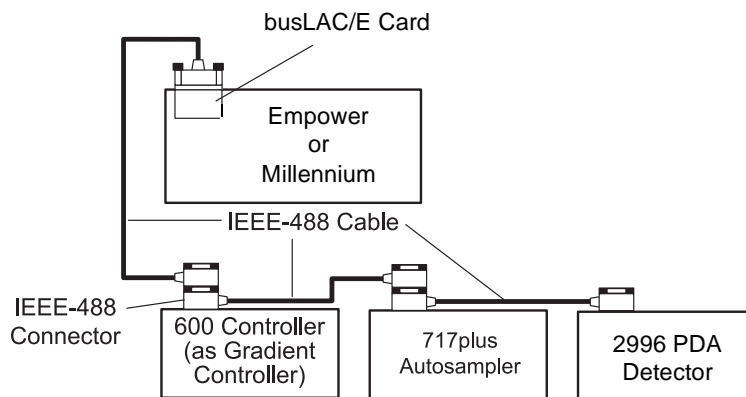
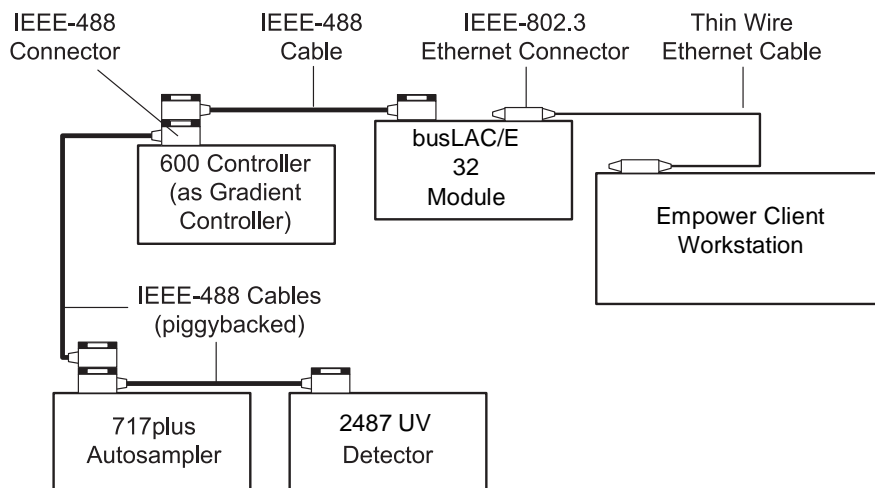

Figure 3-3 IEEE-488 Connections in a Millennium System
Figure 3-4 IEEE-488 Connections in a Waters 845/860 System
1. Connect the single receptacle end of the IEEE-488 cable (supplied with either the 600E system or the Waters data system) to your data system and attach the cable to the busLAC/E™ (Laboratory Acquisition and Control/Environment) card (Figure 3-3).
3. If you are using the 600 controller as part of a multicomponent configuration (as illustrated in Figure 3-3 and Figure 3-4), connect a second IEEE-488 cable to the “stackable” connector on the 600 controller. Connect the other end of the cable to the IEEE-488 port on the next component.